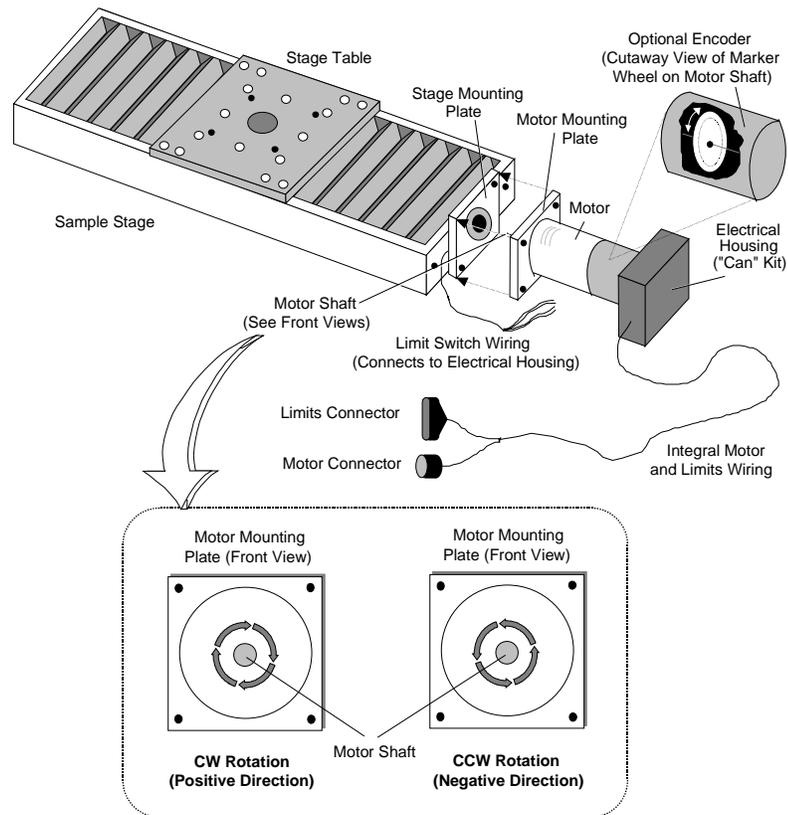

Figure 5-17. Motor and Encoder Rotation
In rotary motors and feedback devices, it is important to determine the rotation direction for proper orientation and configuration. A motor is said to be rotating in the positive (+) direction if the shaft is turning in the clockwise (CW) direction while looking "into" the motor from the shaft end. In this case, the feedback device should be counting in the positive direction. Refer to Figure 5-17.